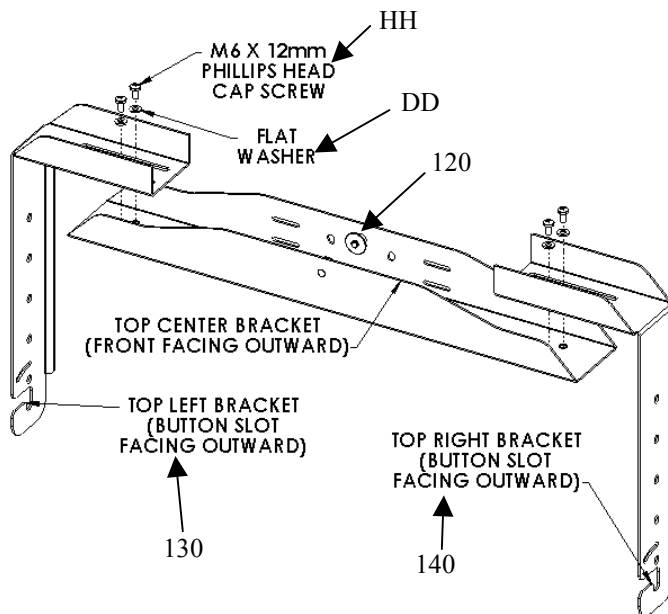

Figure 14. Attach Support Brackets to Center Bracket
1. Locate the LH and RH support brackets (130 and 140), the top center bracket (120), four M6 X 12mm Phillips head cap screws (HH), and four flat washers (DD). See Figure 14.
NOTE: Make sure that LH and RH support brackets are positioned with the button slot facing outward as shown in Figure 14. Also, make sure that the front of the top center bracket is facing outward.